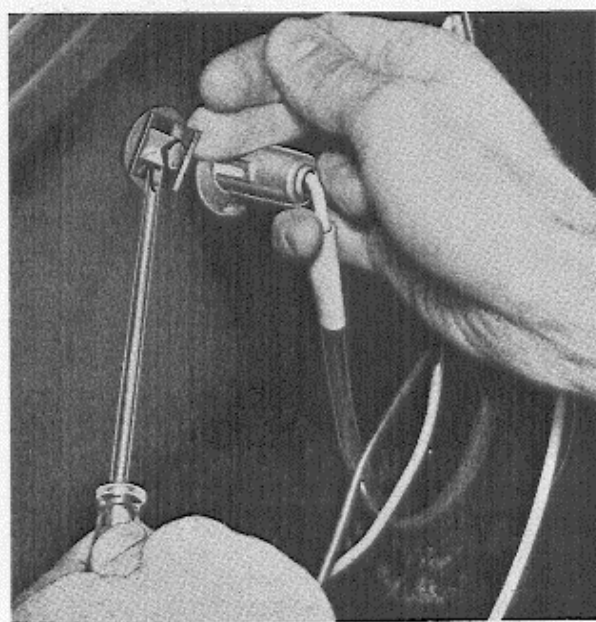

Fig. 23.
3. If the lamp housing has to be changed, this is done by removing the three locking washers with a screwdriver. See fig. 23. The best way of carrying this out is to first fold back the fibre sides.